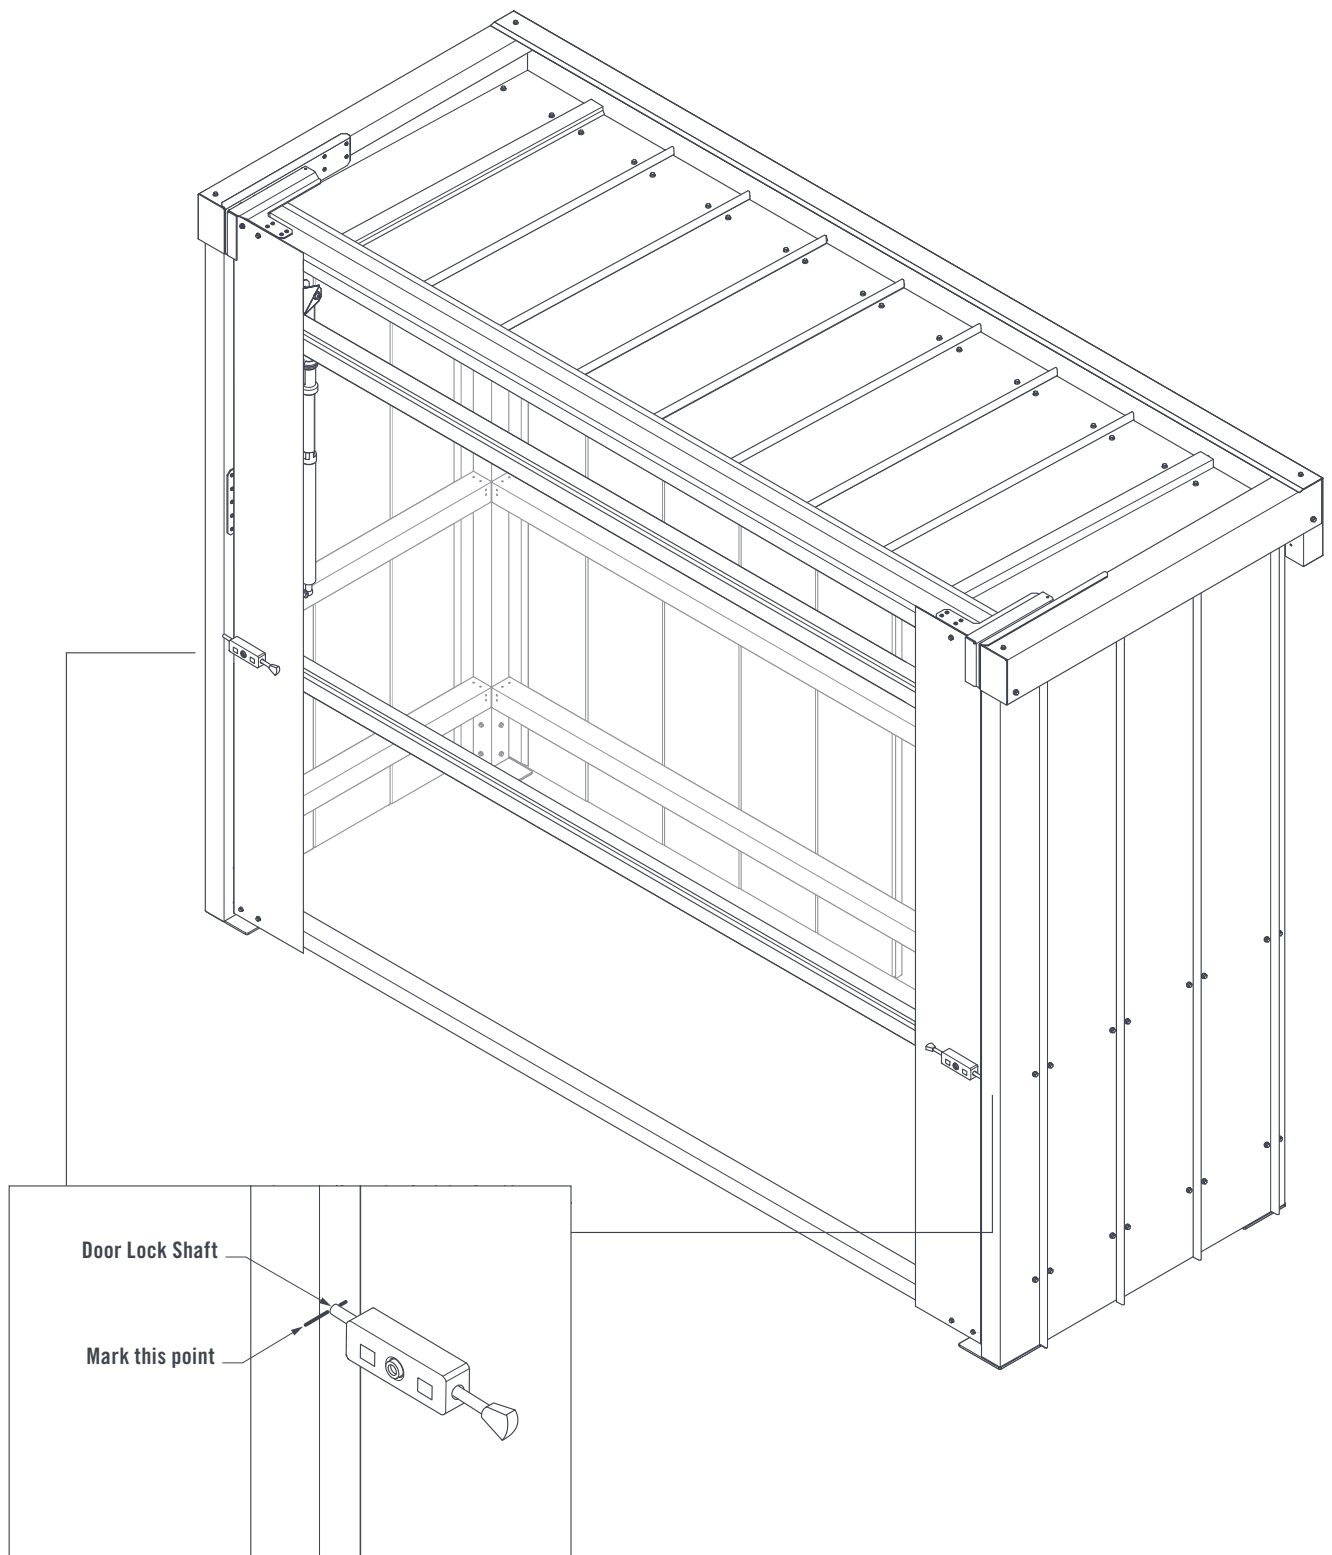
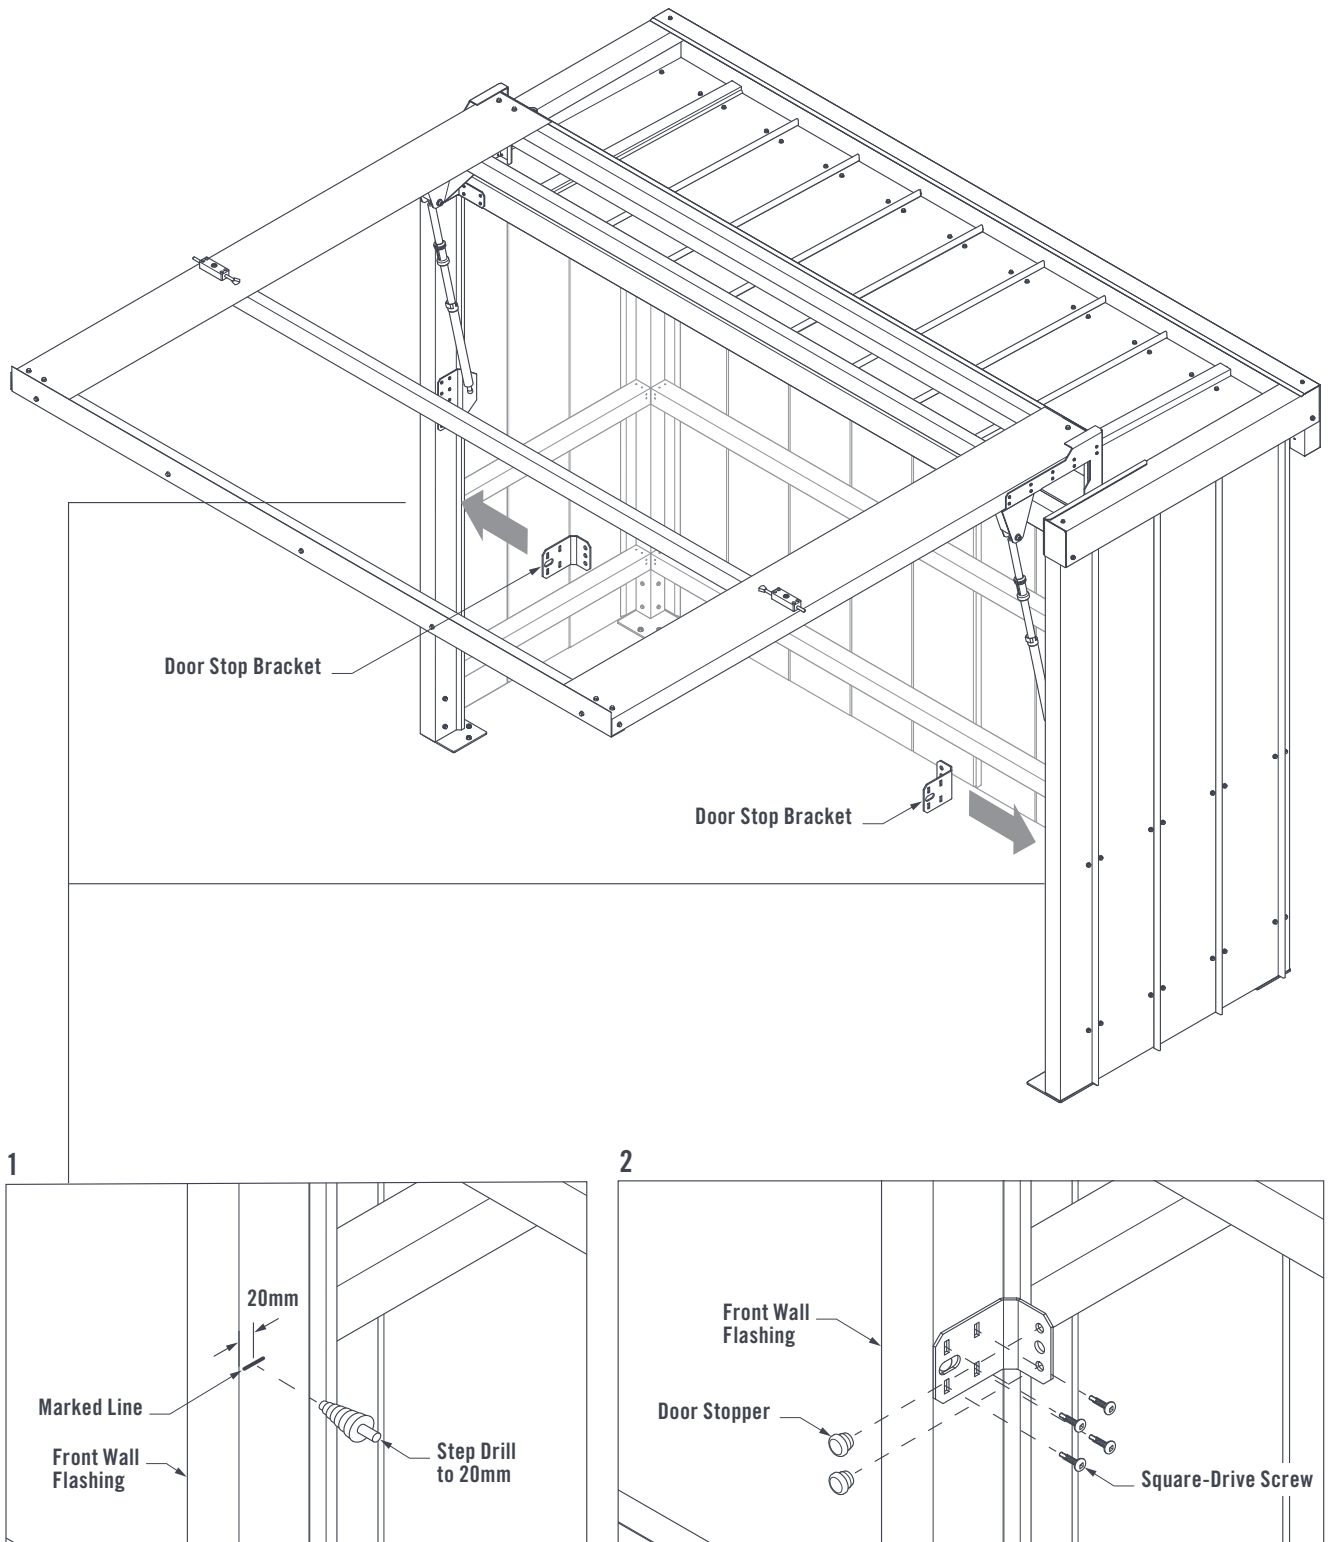

FIGURE 10.3
FIGURE 10.6
Mark the location of both Door Lock Shafts against the Front Wall Flashings (Figure 10.3).
- 1) Using the mark from **Figure 10.3** as a guide, measure and mark the location of the Door Lock Shaft hole 20mm from the front edge of the Front Wall Flashings (Figure 10.6) Use a Step Drill Bit to drill a 20mm hole through the Front Wall Flashings.
- 2) Fit two Door Stop Brackets to the Front Wall Flashings. Ensure the elongated hole of the Door Stop Bracket is in-line with the drilled hole. Fasten both Door Stop Brackets to the Front Wall Flashings using four Square-Drive Screws through the pilot holes in each bracket. Fit two Door Stoppers through the outer holes of both Door Stop Brackets (Figure 10.6).